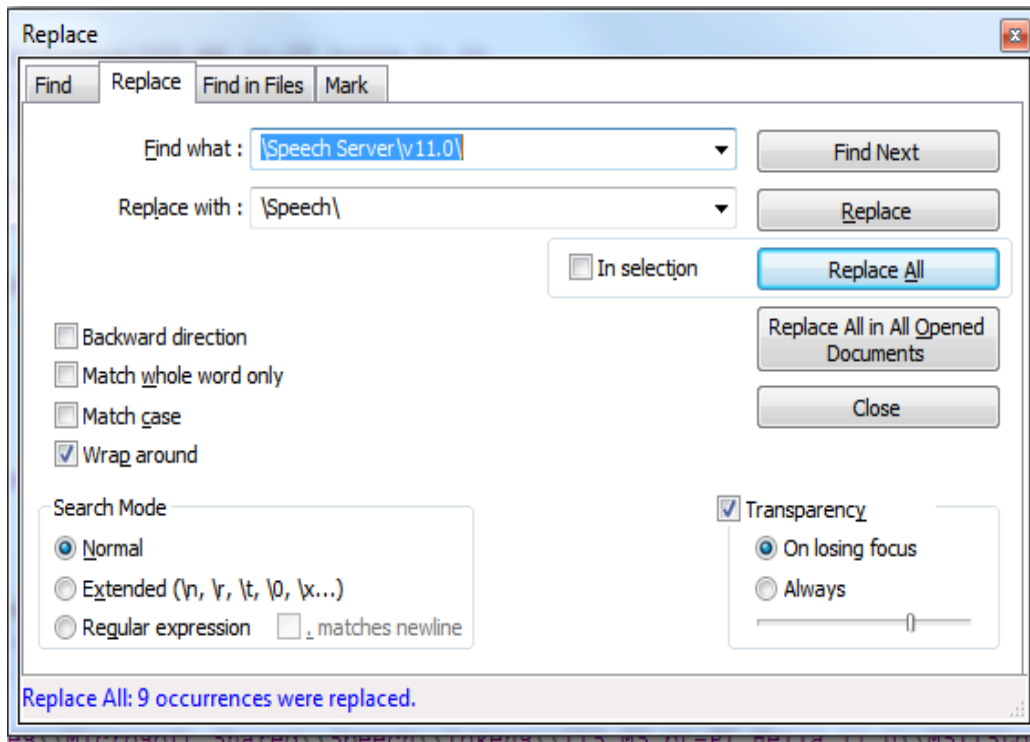

Figure 147: Find and replace
5. Now you have to edit the files exported on the previous step. In order to do that, open them with Notepad, press "cntrl + H" and search for "\Speech Server\v11.0\" then replace it with "\Speech\". Then save the file. This step must be done with both of the files (Figure 147).